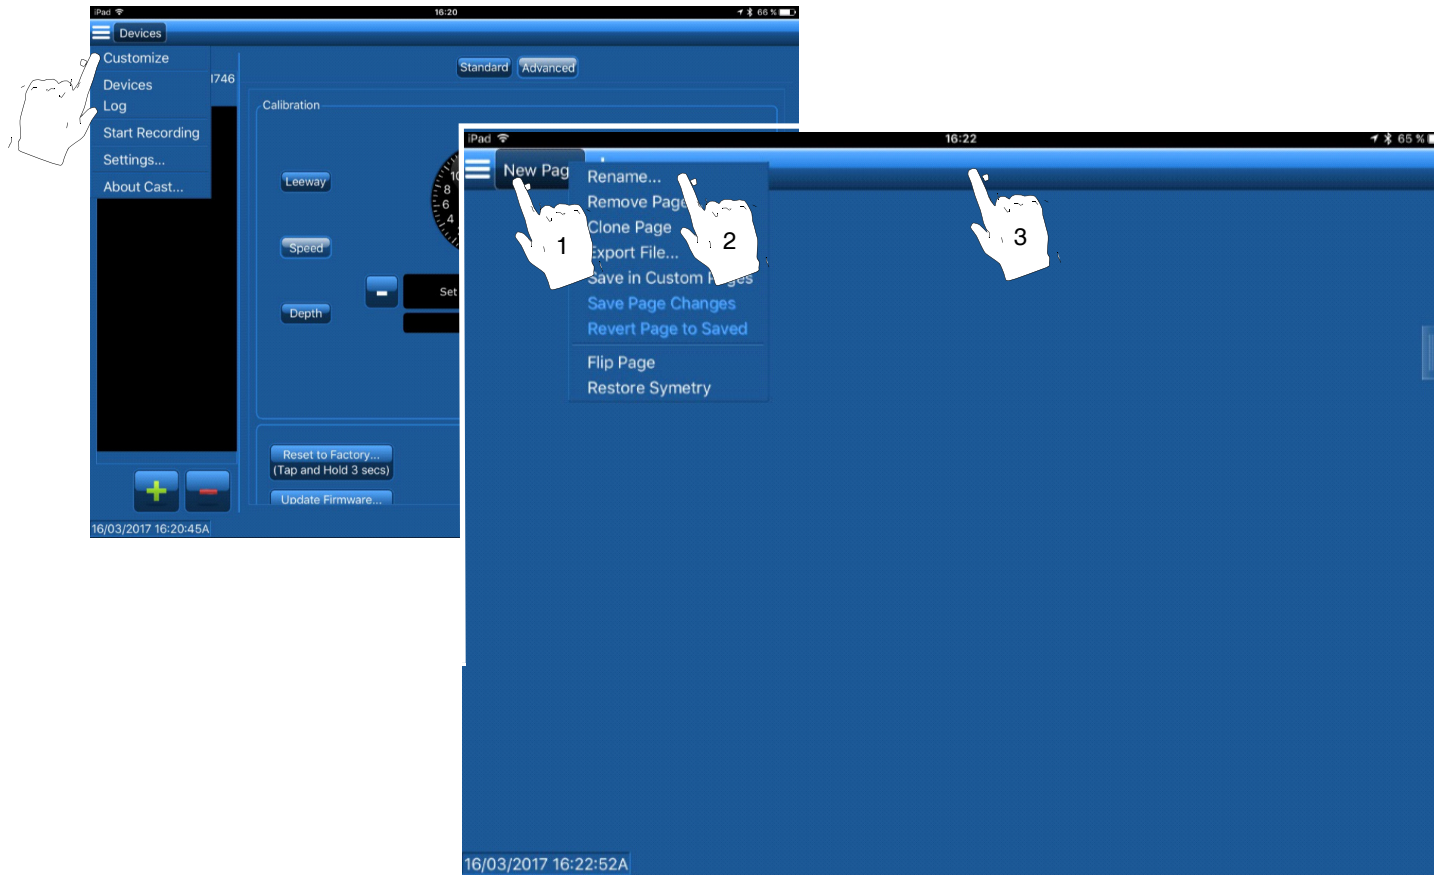

Figure 25. Rename the custom page
4. Touch and hold the **New Page** to see the drop-down menu (Figure 25).